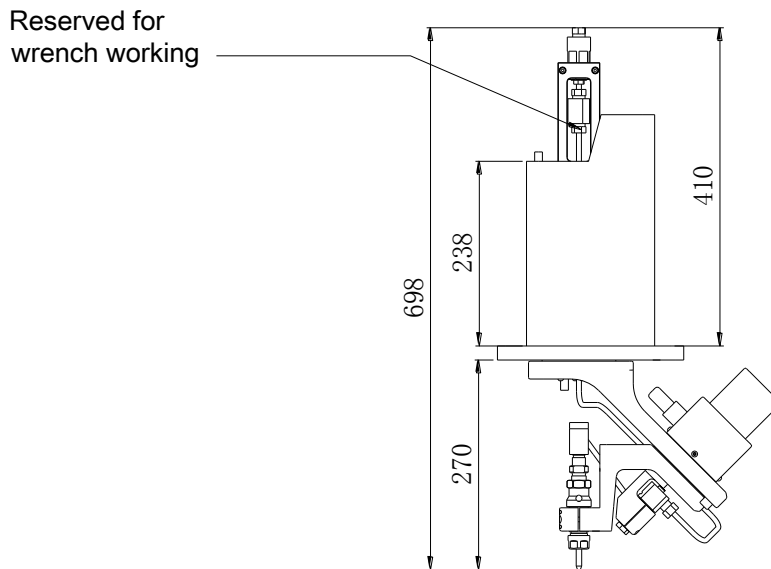

Fig. 2-1 Dimensional drawing of WJAC-70-xxxx-03 (Front view)
- 6) Initial pose of C-axis or the cutting head is as shown in Fig. 2-1.